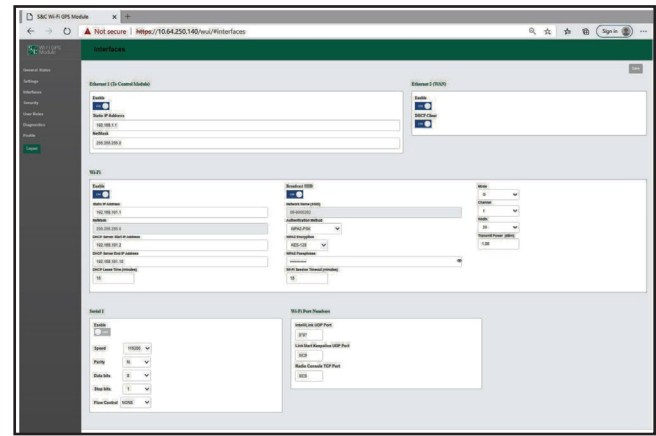

Figure 30. The *Interfaces* screen.
**STEP 2.** Click on the **Interfaces** option in the left menu to open the *Interfaces* screen. See Figure 30.